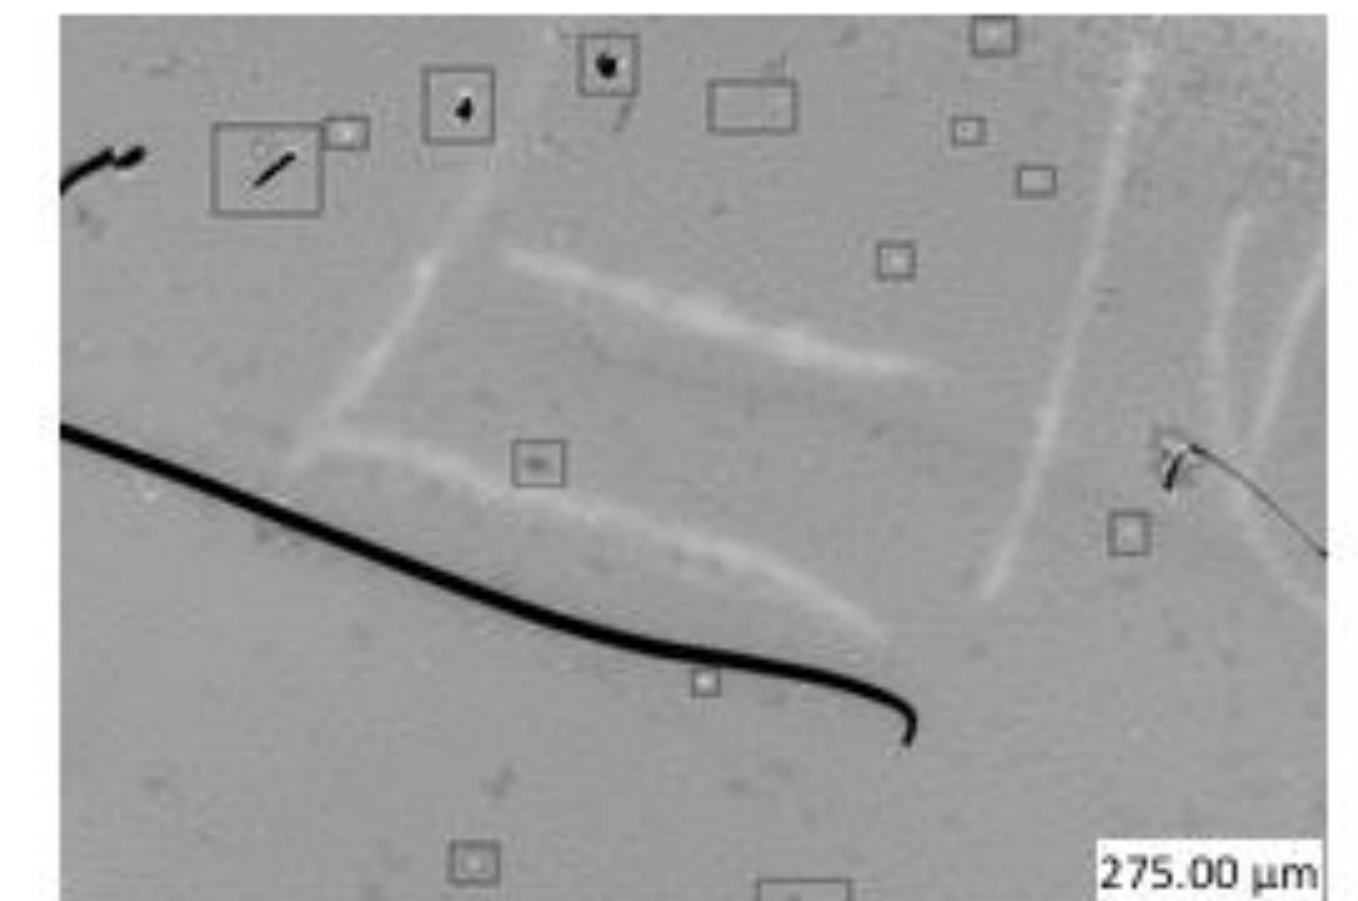

Figure 4
4. In figure 4, The code just marks the pinhole but is unable to identify the scratches.